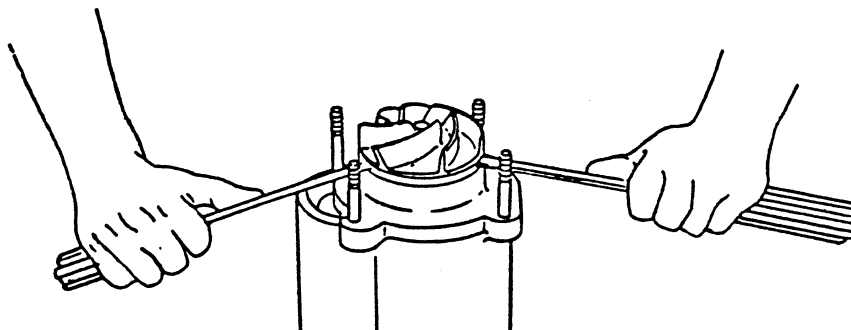

Figure 2. Removing Pump Impeller
Remove the wood and pry the impeller off using two flat-bladed screwdrivers as shown in Figure 2. Retain the impeller key (62). Use caution when removing the impeller from the shaft; tension on the seal spring will be released, and the seal plate (55) will become a free part.